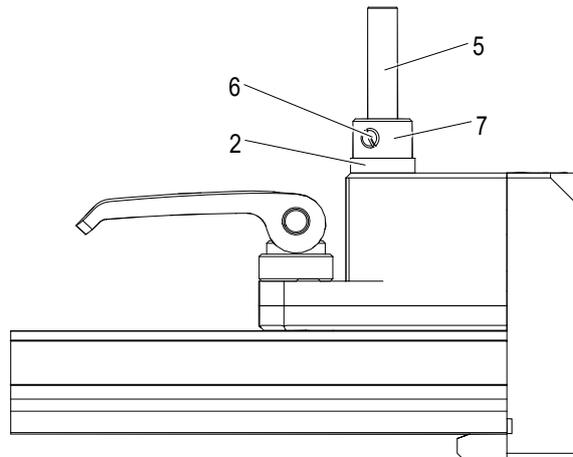

Fig. 111: Step drill (5) lays against drilling hole (10)
→ Drill with a cordless screwdriver (incl. countersink) until the adjusting ring comes into contact with the drill bushing (2) (see Fig. 111).